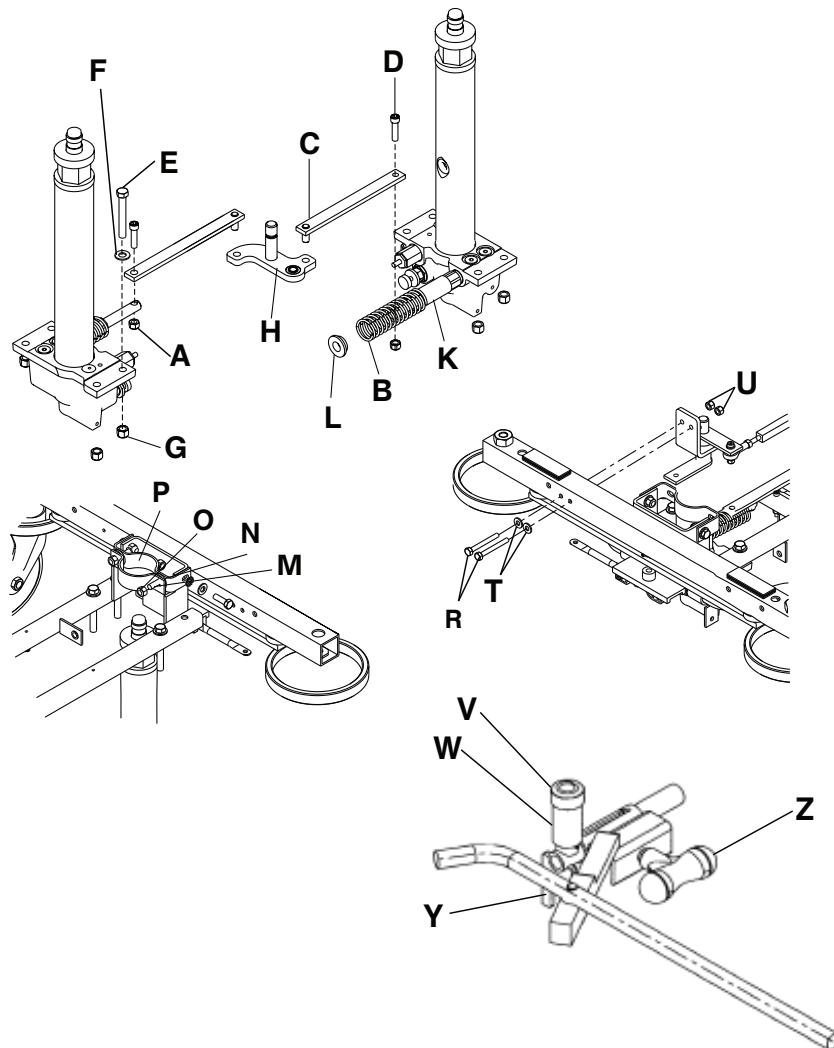

Figure 5 – Jack replacement
4. Using an 3/8" hex wrench and a 1/2" combination wrench, remove the locking nut (A) from under the pump piston (Figure 5). Save the locking nut.
5. Compress the jack spring (B). Using a slotted screwdriver, pry the pump link weldment (C) and socket head cap screw (D) out of the pump cylinder. Save all parts.